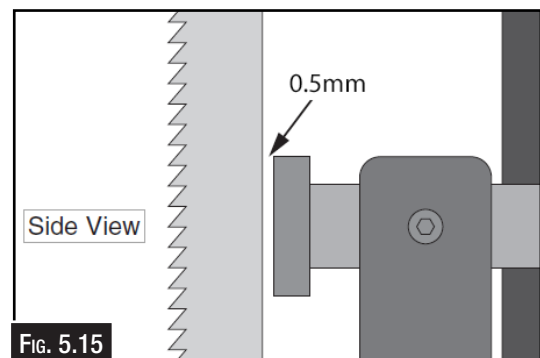

Fig. 5.15
5. Adjust the support bearing 0.5mm away from the back of the blade, as illustrated in Fig. 5.15